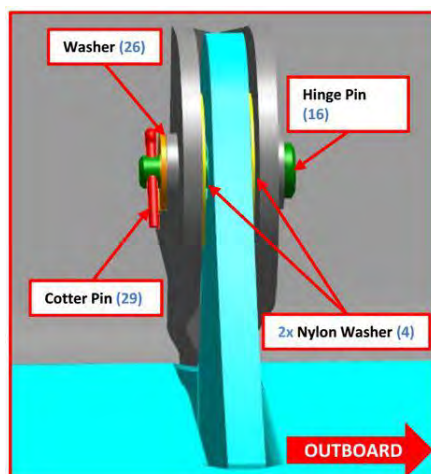

FIGURE 18-4
3. Align the hinges flap to wing and install the washers and pins at each of the three hinge locations per flap as shown in Figure 18-4. To minimize the gap between hinge elements, use 95630A460PTFE washers as needed but with a minimum of one on each side of the flap hinge
tang. Typically, there will be two PTFE washers used in each gap at the center hinge (center hinge is shown in Figure 18-4). An NAS1149C0332R washer should be used under each cotter pin.